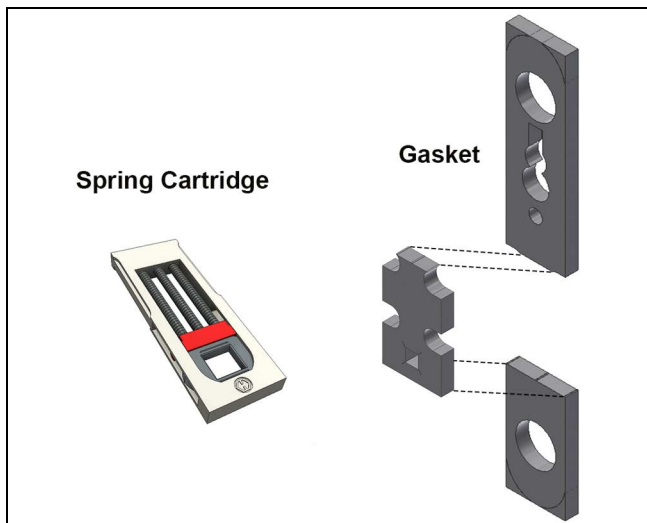

Figure 2
1. Install spring cartridge(s) as shown in Figure 2. Install spring cartridge on interior side when only one is provided. Insert gaskets on both backplates. On the side(s) using a spring cartridge, tear out the middle section of the gasket and insert the two halves above and below the spring cartridge.